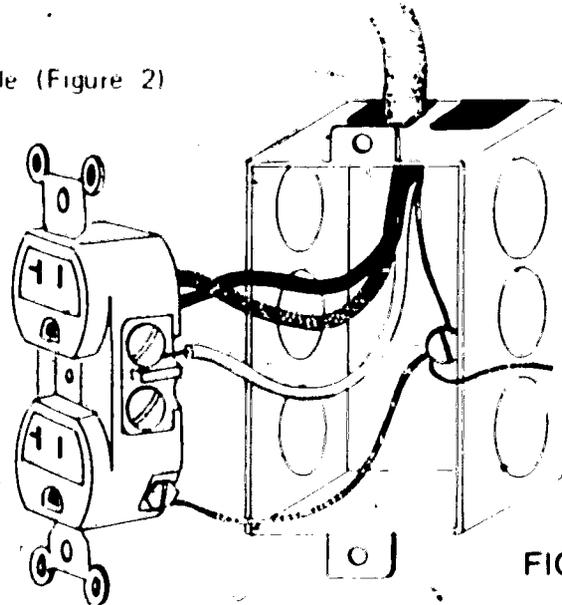

FIGURE 2
L. Install receptacle (Figure 2)